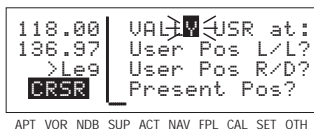

Figure 5-18
3. Spell out the rest of the identifier using the right inner and outer knobs (figure 5-18).